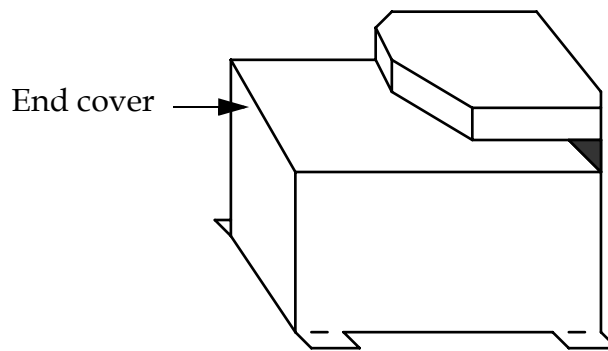

Figure 7-1: Atmospheric Pre-aligner Showing End Cover
1. Set the torque limit (TL) for each axis to 3333 by pressing the >>> and <<< buttons as needed.
5. To test the r and z axes, remove the Pre-aligner End Cover (Figure 7-1), which is opposite the CCDs.